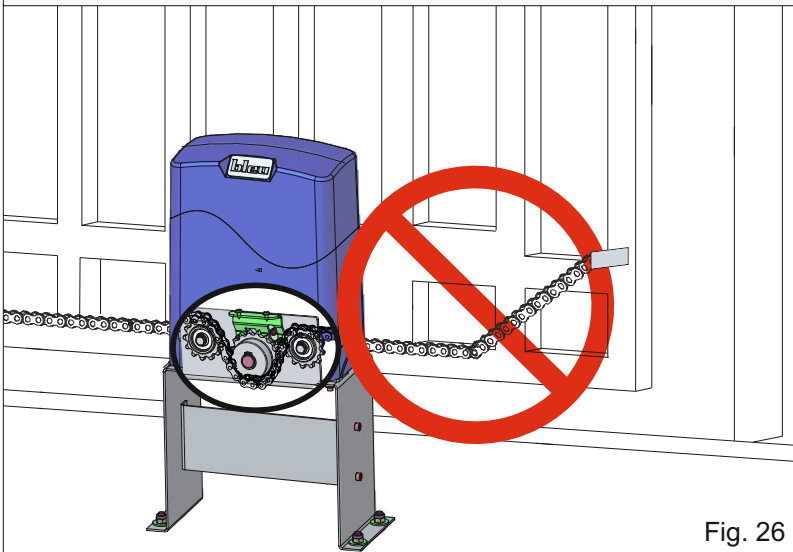
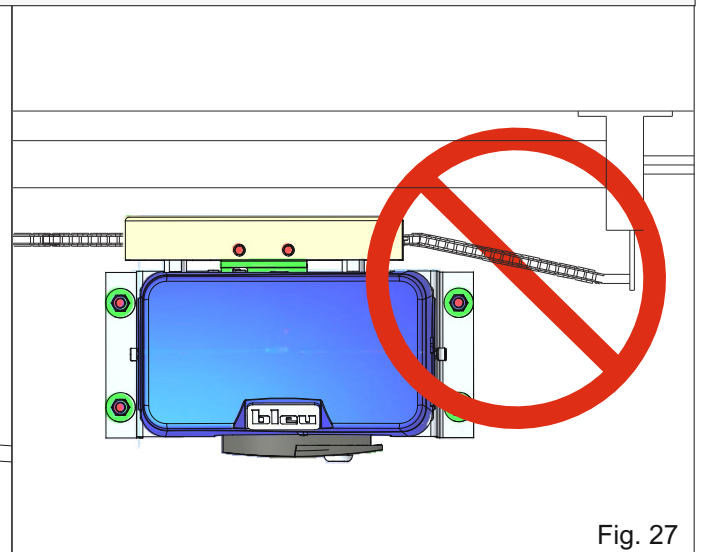

Fig. 26
Fig. 27
- THE CHAIN MUST BE INSTALLED IN A HORIZONTAL POSITION AND PERFECTLY ALIGNED IN ORDER TO AVOID THE DERAILMENT FROM THE PINION UNIT (Fig. 26 and Fig. 27)